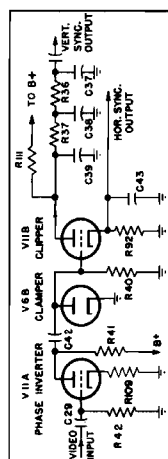

Fig. 5. Sync Separator Circuit
4. SYNC SEPARATION (SEE FIGURE 5)—Amplification and separation of the sync pulse from the composite video signal is accomplished by the sections, V11A, V6B, and V12B.